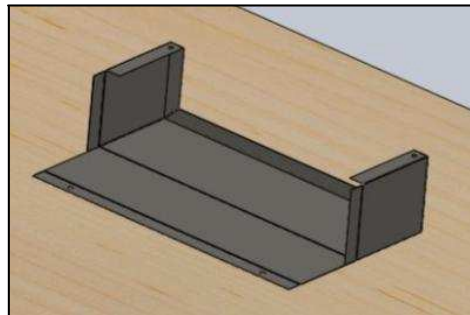

Figure 10: Bend #7- Finished work piece after completing Bends #1 through #7.
- D.** Bend #7- Repeat the procedure given in the previous step along with the provided cautions and safety considerations. The work piece should look like Figure 10 when Bend #7 is completed.